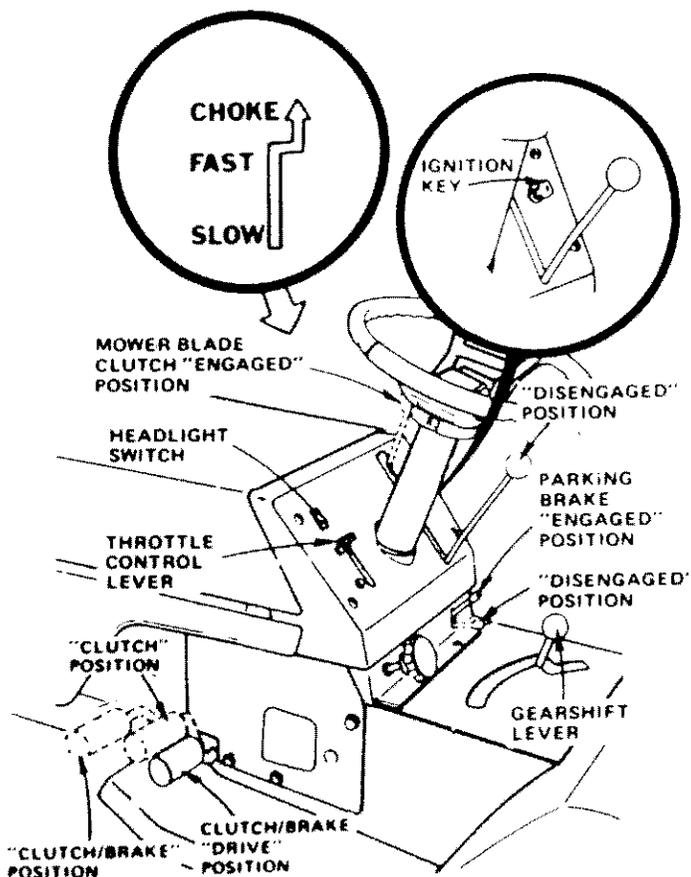

FIGURE 7
- Push clutch-brake pedal into full "BRAKE" position. Keep your foot on pedal. (Fig.7)
- Place attachment clutch lever in "DISENGAGED" position. (Fig.7)
- Move gear shift lever to "NEUTRAL" position. (Fig.7)
- Place parking brake in "ENGAGED" position and release pressure from clutch/brake. Pedal should remain in "BRAKE" position. (Fig.7)
- Move throttle control to "S" (slow) position. (Fig.7)
- Turn ignition key to "OFF" position. Never use choke to stop engine. (Fig.7)
- a. Move throttle control lever (Fig. 7) past "FAST" to the "CHOKE" position.